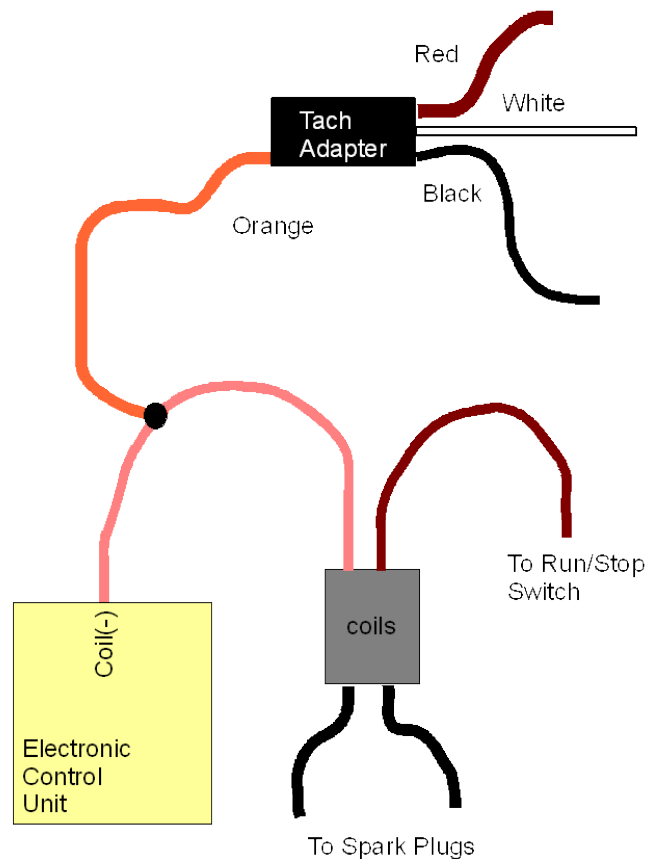

Figure 3: Tach adapter to Coil diagram
4. Splice into the Coil signal(-) and connect to the Orange wires from Speedway Instruments tach adapter. Do not splice into the coil (+) signal. See Figure 3.